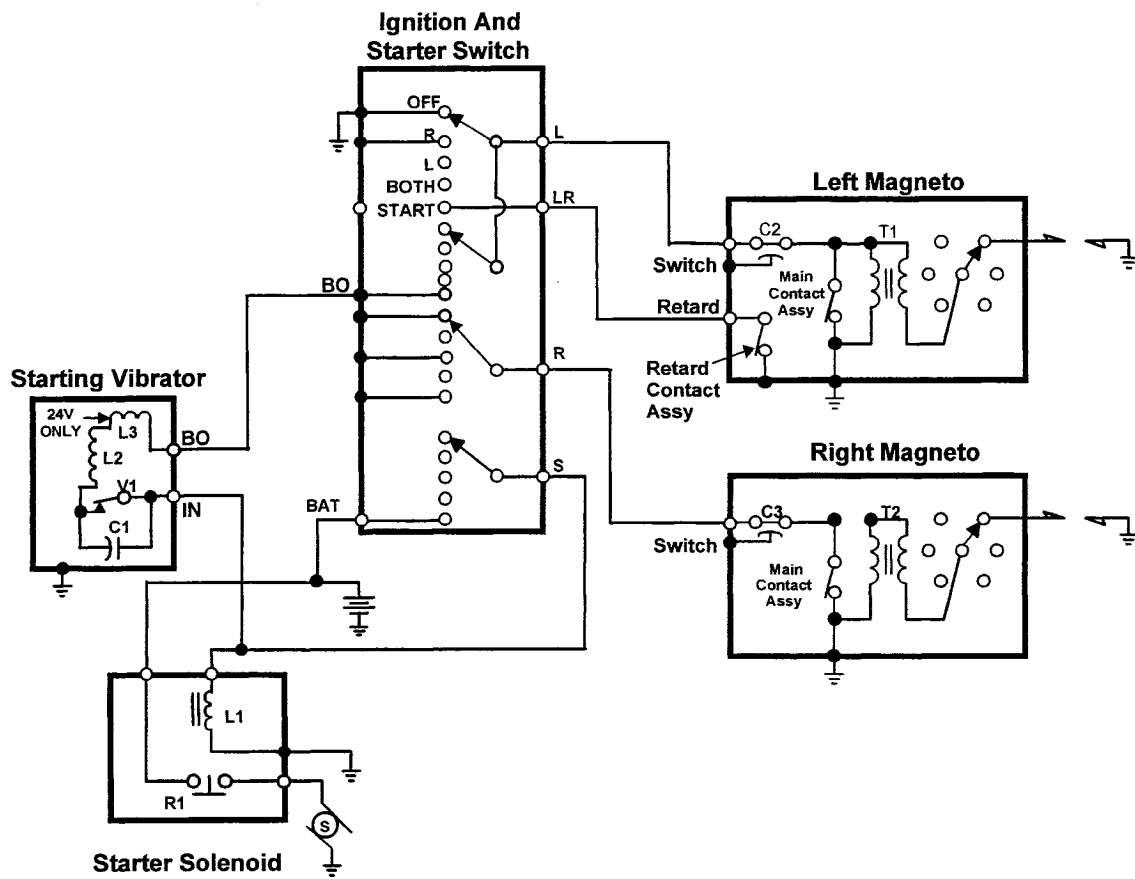

Figure 3-1
Figure 3-1, Typical Ignition System With Starting Vibrator	3-5
- Figure 3-1, "Typical Ignition System With Starting Vibrator."
In Figures 3-1 through 3-3, all switches and relays are in the normal "OFF" position. These diagrams illustrate the electrical operations of the magneto circuits. They are not to be used for installation purposes.
With the combination ignition and starter switch in its "START" position (Figure 3-1 on the preceding page), the right magneto is grounded. Starter solenoid L1 is energized, closing its relay contact R1. Battery current flows through vibrator points V1, coil L2 (an L3 in 24 volt models), through the switch and main and retard breakers of the left magneto to ground. A magnetic field built up around coil L2 causes vibrator points V1 to open. Current ceases in the circuit, causing the magnetic field to collapse and vibrator points to re-close. Current flow resumes and re-energizes coil L2. Vibrator points V1 open again. When the engine reaches its normal advance firing position, the main contact assembly opens. However, the vibrator current is still carried to ground through the retard contact assembly which does not open until the starting